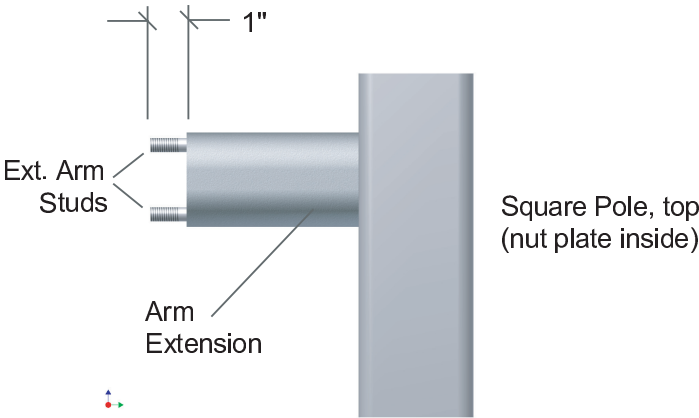

FIGURE 6
C. USING EXTENSION ARM ON SQUARE POLE - FIGURE 6
- 3. With nut plate inside pole, thread extension arm studs thru top and bottom extension arm holes, then thru top and bottom pole holes, then into nut plate. See Figure 6.